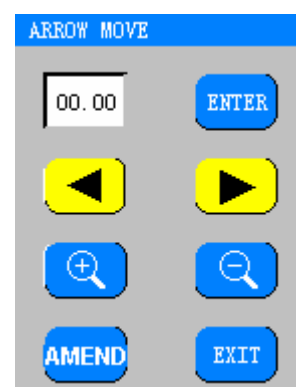

Figure 4.20 Arrow Move Dialogue Box
a) Double click the data display area quickly to call out the ARROW MOVE dialogue box as shown in Figure 4.20, and amend the data indicated by cursors.